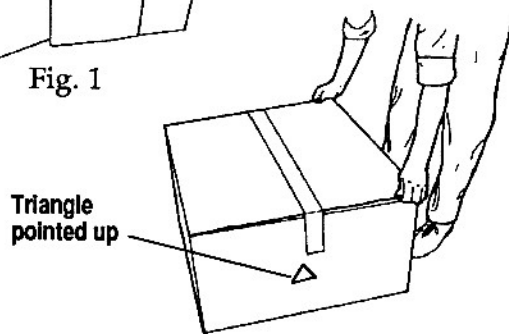

Fig. 2
4. Gently place the smaller box right-side up, as shown in Fig. 2. The triangle on the box should point up.